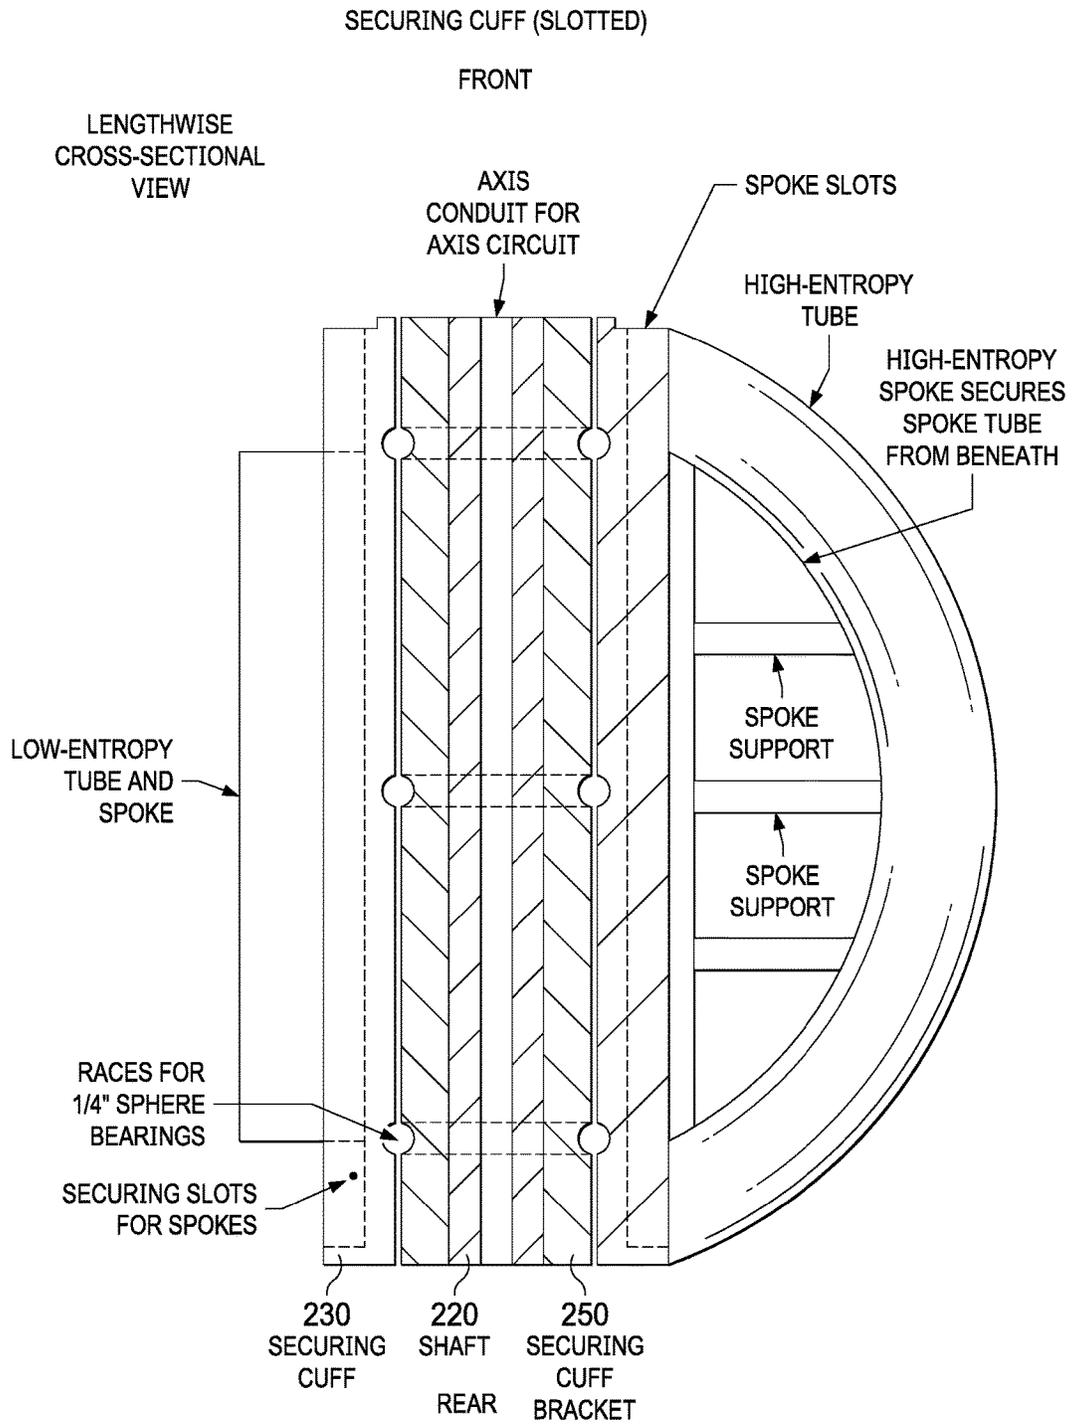

FIG. 11
**[0019]** FIG. 11 shows a lengthwise cross-sectional view of the InfinityScrew engine securing cuff and securing cuff bracket;